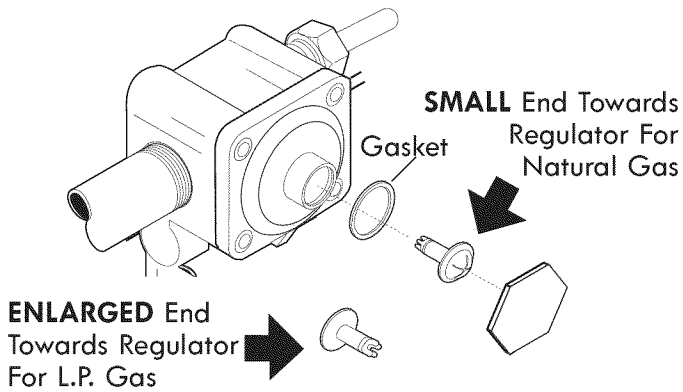

Figure 8
Convert the Pressure Regulator for use with LP Gas (see figure 8)
Locate pressure regulator on lower back wall and convert as shown in figure 8.
9. Natural Gas Conversion Convert the Pressure Regulator for use with Natural Gas (see figure 8)